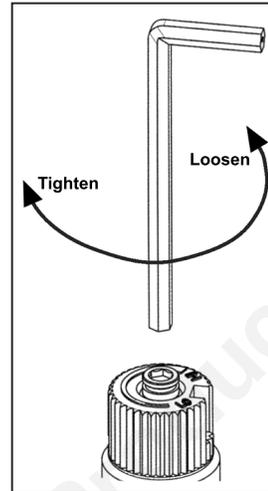

Figure 10: Removing
- b) Insert a $\frac{5}{32}$ " or 4 mm Allen wrench into the hexagonal key-way of the screw (see Figure 10), rotate it counter-clockwise until it is free and extract it.
- e) Using the Allen wrench as shown in Figure 10, rotate the screw clockwise until a torque of 9 inch lbs. **WARNING!** Do not over tighten the screw. It is recommended that you grip the wrench by the short side.